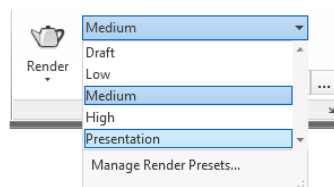

FIGURE 17.36: Choose the Presentation rendering preset.
- In the AutoCAD window, expand the Render Presets drop-down list and select Presentation, as shown in Figure 17.36.